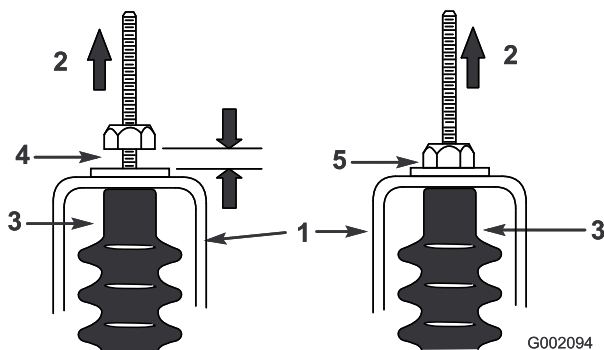

Figure 59
5. Pull up on each shift cable and ensure that there is a 0.76 to 1.52 mm (0.03 to 0.06 inch) between the nut/washer and the neutral bracket (Figure 59).